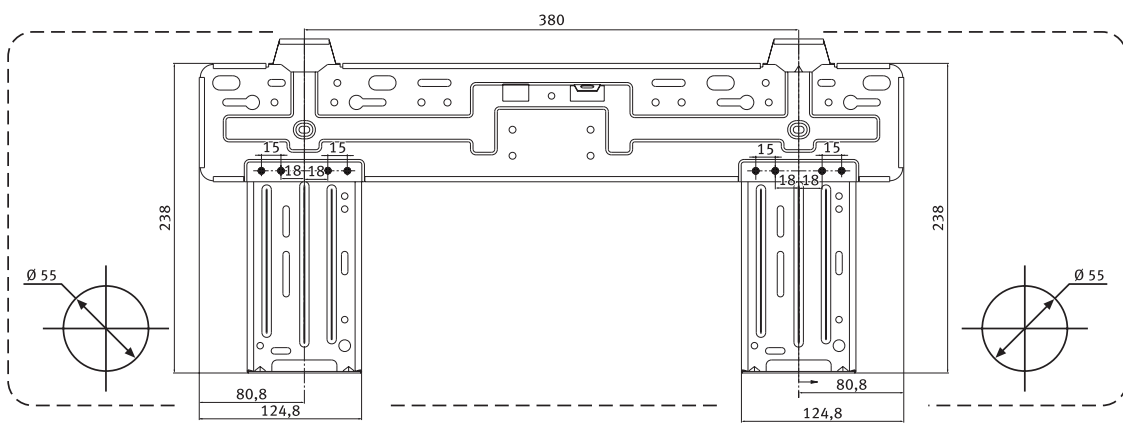

Fig. 9.6 Mounting plate for VAI 6-025 WNI and VAI 6-035 WNI.
In this case, a suitable hole must be made in the wall behind the unit (see Figure 9.6).
- Drill a hole in accordance with the diameter and position as indicated in Figures 9.6, ensure the hole is slightly descending to the outside to allow for a fall in the drain line.